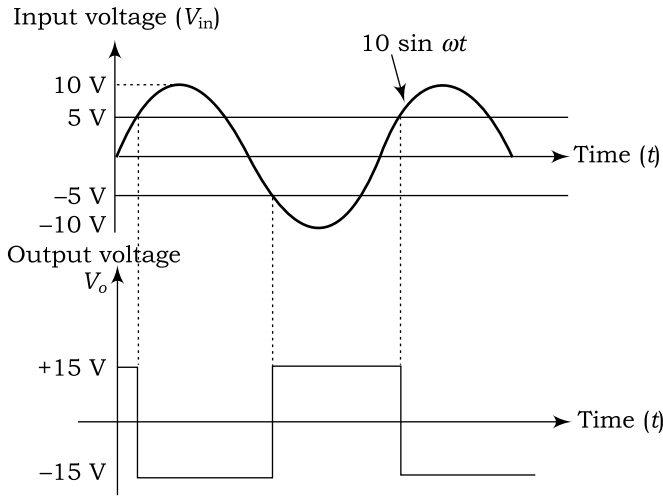

Fig. 7.77 Input and output voltage waveforms of Schmitt trigger circuit
- The output voltage waveform is shown in Fig. 7.77.